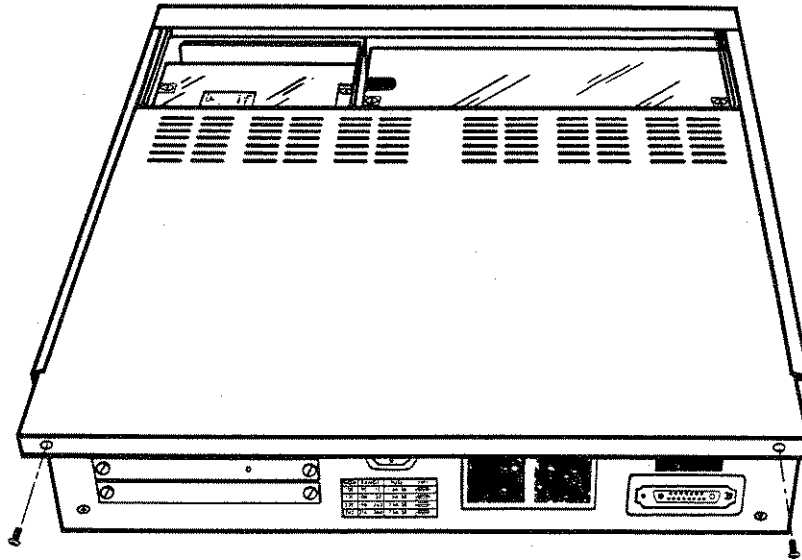

Figure 7-10. Removing the Top Cover
STEP 3. Turn the instrument over and remove the two screws that secure the top cover to the 5300. Slide the cover back to remove it from the instrument. Refer to Figure 7-10.